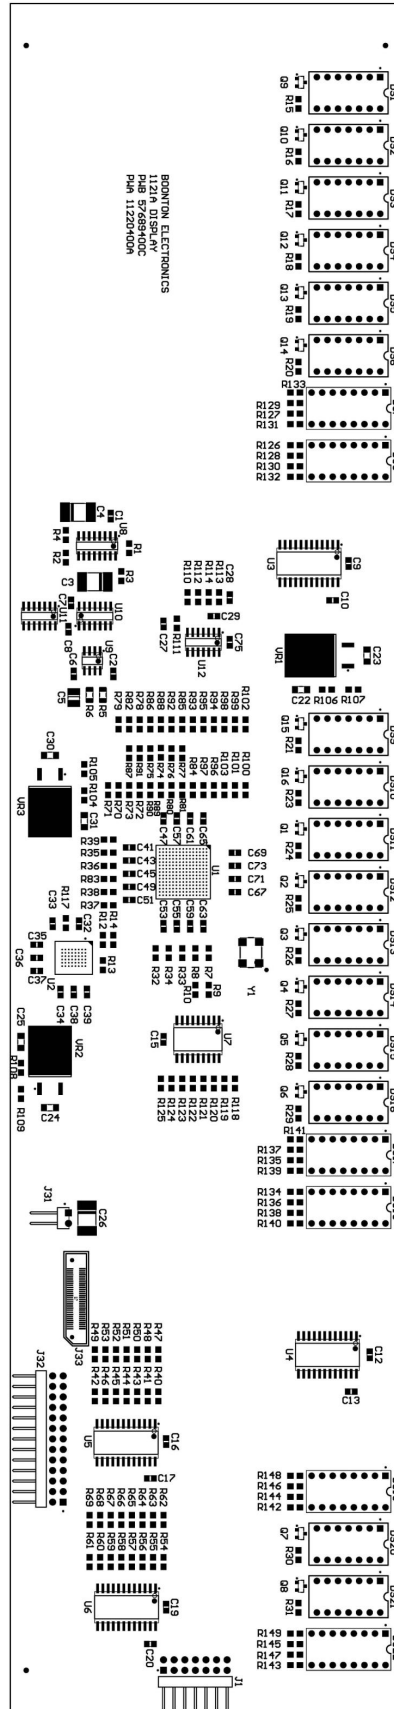

Figure 6-14. PWA '1121A' Display (A12)
**11220400A REV A PWA DISPLAY 1121A (A12) (Figure 6-14)